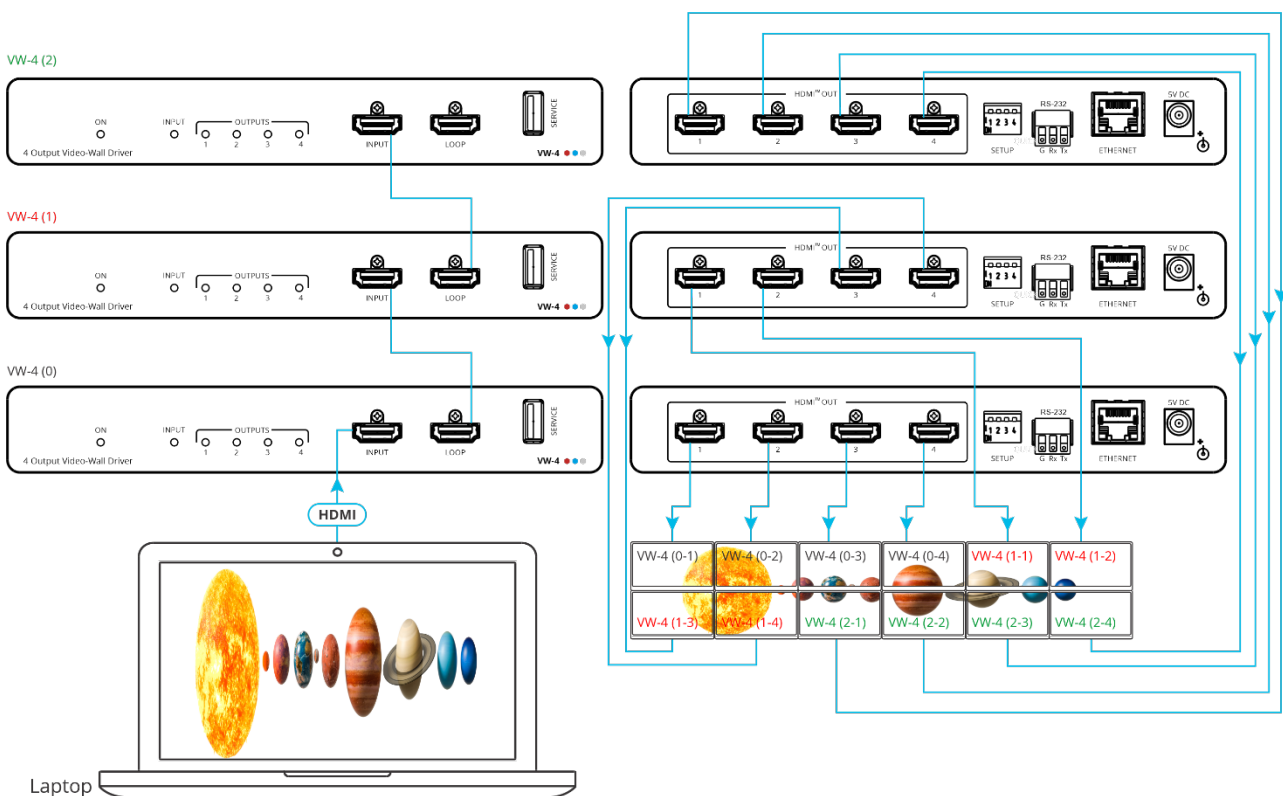

Figure 2: Connecting to the VW-4
To connect VW-4 as illustrated in the example in Figure 2:
1. Connect the HDMI source (for example, a laptop) to the HDMI INPUT connector (4) on the front panel of **VW-4 (0)**.
2. Connect the LOOP HDMI connector (5) on **VW-4 (0)** to the HDMI INPUT connector on the front panel of **VW-4 (1)**.
3. Connect the LOOP HDMI connector on **VW-4 (1)** to the HDMI INPUT connector on the front panel of **VW-4 (2)**.
4. Connect each of the HDMI OUT connectors (7) on the three **VW-4** devices to a display (in its appropriate location on the video-wall).
5. Connect the power adapter to **VW-4** and to the mains electricity (not shown in Figure 2).